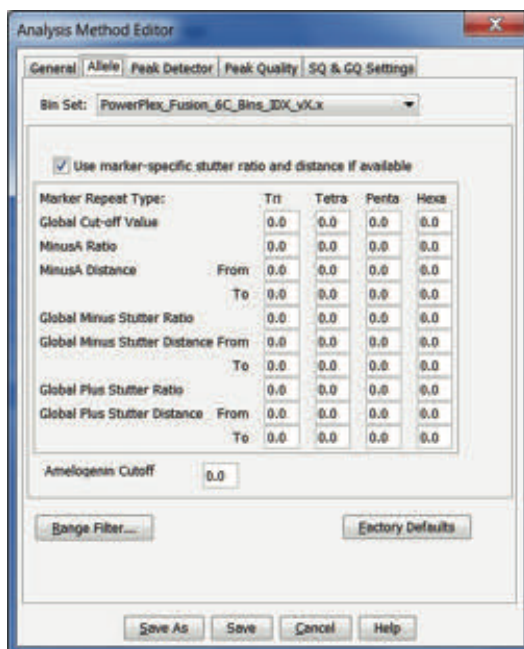

Figure 17. The GeneMapper® ID-X Software, Version 1.4, Allele tab.
6. Select the Allele tab (Figure 17).
8. Ensure that the “Use marker-specific stutter ratio and distance if available” box is checked. Doing this will assign locus-specific stutter filters and distances from the imported stutter file. We recommend the settings shown in Figure 17 for proper filtering of stutter peaks when using the PowerPlex® Fusion 6C System.